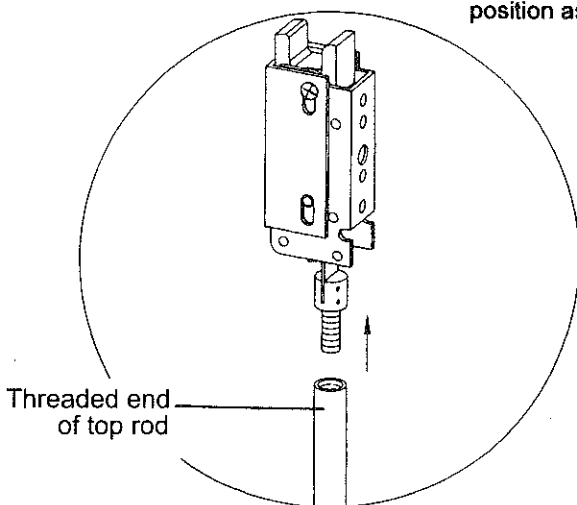

Figure 9
- Screw the threaded end of top rod into top latch assembly completely. (See Figure 9.)
**Note :** If the hole of top rod connector does not match in alignment with the mounting hole of bit glide plate, adjust the height of top rod as shown in Figure 9 or re-cut the length.